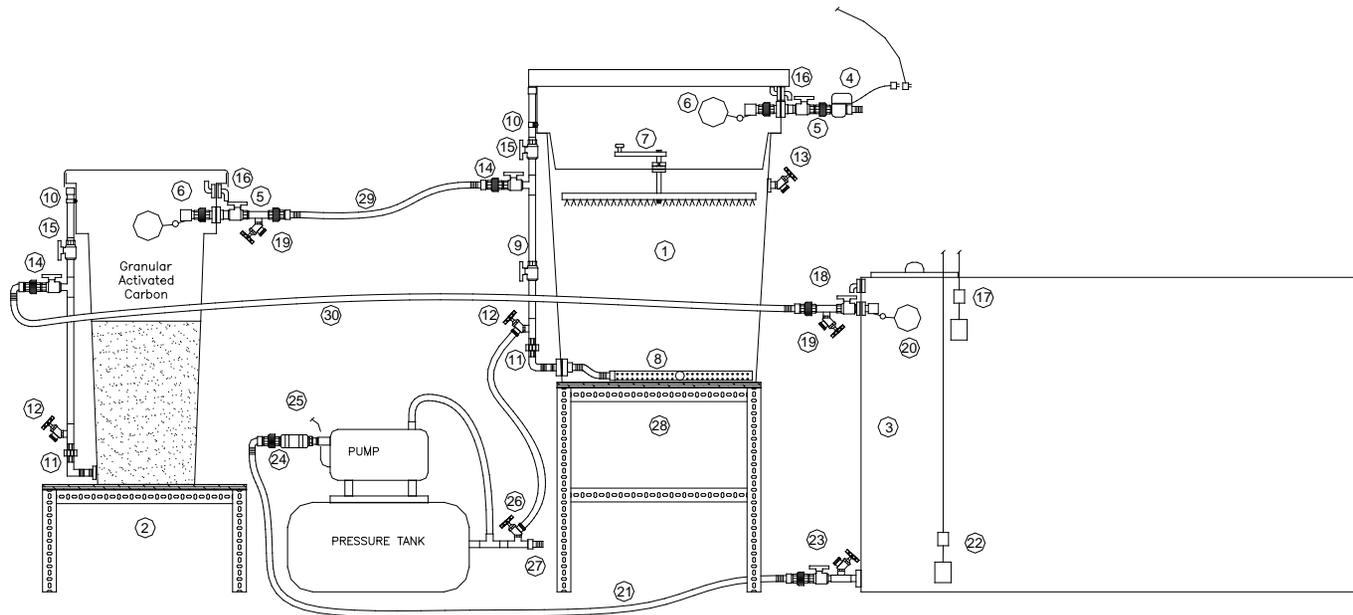

Figure 1 - Automated System Layout - BioSand Filter and GA Carbon Water Filter
- **Refer to Figure 1 to find the locations for all system components.**
Step 1. Position the BioSand filter stand and GA Carbon water filter stand as shown in figure 1. Place the BioSand filter and GA Carbon water filter on the respective stands.